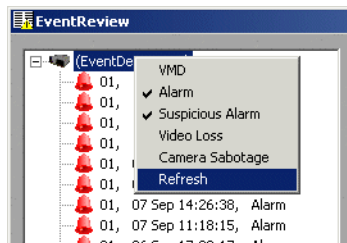

Figure 10-9: Selecting event types for display in Event Review
1. With the mouse pointer over the server icon at the top of the event tree, click and hold down the right mouse button. A pop up menu appears with an entry for each of the four event types as shown in Figure 10-9. Only event types that have a tick beside their entry appear in the list.
1. With the mouse pointer over the icon for an event (either in the event tree as shown in Figure 10-9 or in the events summary in the right-hand pane), click and hold down the right mouse button. A pop up menu appears with an entry for each of the four event types as shown in Figure 10-9. Only event types that have a tick beside their entry appear in the list.